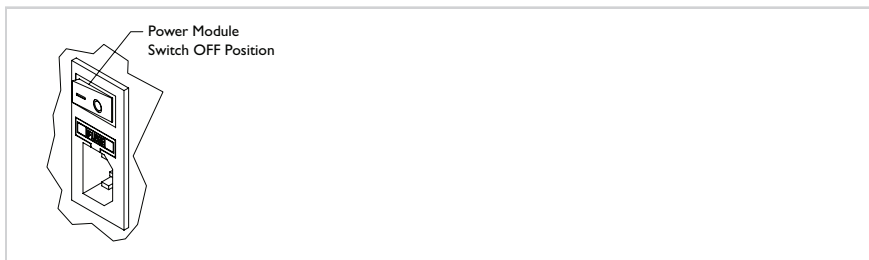

Figure 2: Power ON/OFF Switch
1. Push the Power Module ON/OFF switch to the OFF position. See Figure 2.